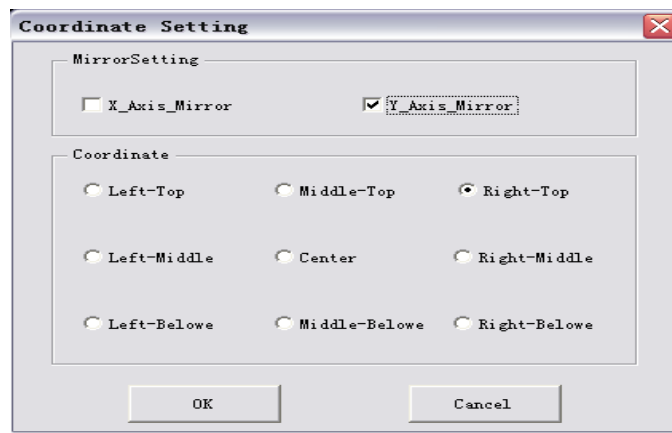

Figure FL-5
In Figure FL-5, the default setting is the Right Upper, which is used in usual cases, other settings will be used to special applications, if we take the current location of the laser head as the initial registration point of current engraving, the figure below shows the position of the exported drawing relative to the laser head at the initial position, assuming the crossing to be the laser head at the initial position.
**Mirror Settings:** If the drawings engraved by the equipment have the mirror effect in the X-axis or the Y-axis, you can correct it from with the Mirror Settings. If the mirror direction in X-axis of the software differs from that of the equipment, the effects of the original drawing and the exported drawing will differ as shown in Figure FL-6-1, then you need to modify the mirror settings of the X-axis in the menu shown in Figure FL-5, and settings for the Y-axis should follow the same way.